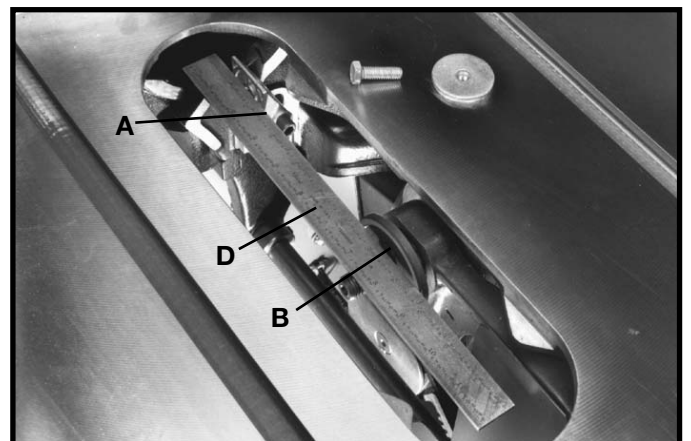

Fig. 24
3. To check the alignment, remove screw and fastener plate (C). Using a straight edge (D) Fig. 24, check to see if the splitter bracket (A) is aligned with the inside blade flange (B). Check both the top and bottom of bracket (A) with the top and bottom of flange (B).